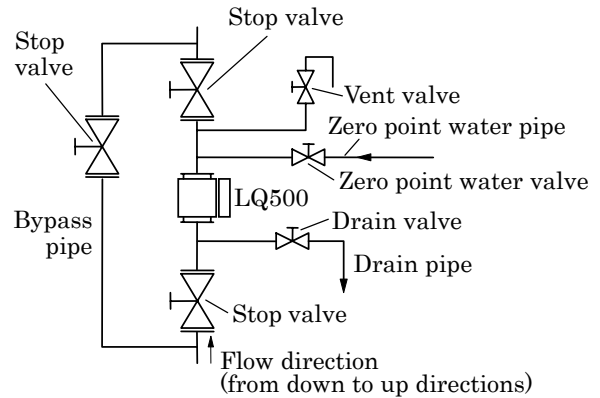

Figure 6. Recommended Installation (vertical installation)
- (2) Install the LQ500 in a pipeline where the pipe is always filled with fluid and without bubbles or entrapped air. If these conditions are not satisfied, the measured value varies or may give an inaccurate reading. It is recommended that the LQ500 is installed at the outlet instead of the suction side.
- (3) Avoid places where sediment collects at the bottom of the pipe.
- (4) Avoid places where air gets into the fluid. To avoid this problem, install the LQ500 to the outlet of a pump, not to the suction side.
- (5) When installing the detector horizontally, install it so that the RF-part of it is oriented up (that is, a pair of applicators stay horizontally) to make it easier for maintenance work and to obtain its specified performance.
- (6) The LQ500 can be installed in either direction (upstream or downstream) and without requiring a straight pipe section. Install it in a place allowing easy on-site maintenance.
- (7) Install an adjustable piping mechanism if there is a possibility that the detector pipe may not fit between mating flanges.
- (8) Install the LQ500 in a place where enough water pressure is applied. Therefore, it is recommended that the LQ500 be installed as far away as possible from the pipe outlet opened to atmosphere. This is to prevent the effects of air being trapped in the liquid.
- (9) If there is a possibility of no liquid flow or uneven liquid distribution occurring when a pump is off, use an external synch control signal to operate the LQ500 only when the pump is working.
- (10) Provide a stop valve at upstream and downstream of the detector, and between stop valves and the LQ500 provide the four valves described below with a stop valve attached to each: 1) sampling outlet valve; 2) zero point water inlet valve; 3) vent valve; and 4) drain valve. If it is not possible to stop the fluid at the point where the LQ500 is installed, provide a bypass pipe with a stop valve provided in the middle. These valves are needed to drain the fluid from the detector pipe and fill it with drinking water (density or consistency 0%) to adjust the zero point. See Figures 6 and 7.
- (11) Use gaskets for piping of the size conformed to flange rating and of the material appropriate for the liquid to be measured.